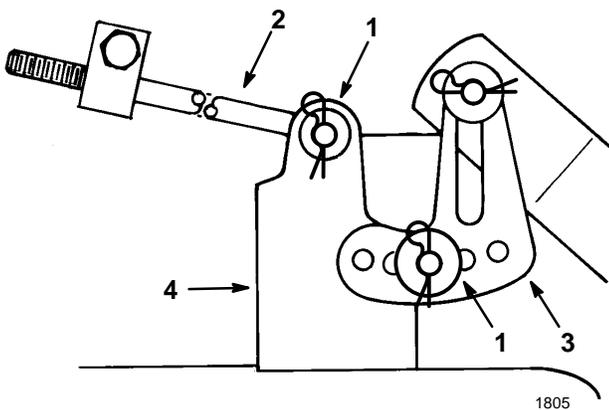

Figure 50
- Remove the hair pin cotter and washer from the leveling bracket (Fig. 50). To level the blade(s), reposition the leveling bracket in a different hole and install the washer and hair pin cotter. (Fig. 50). A front hole lowers the blade height and a rear hole raises its height. Repeat this procedure on the opposite side.